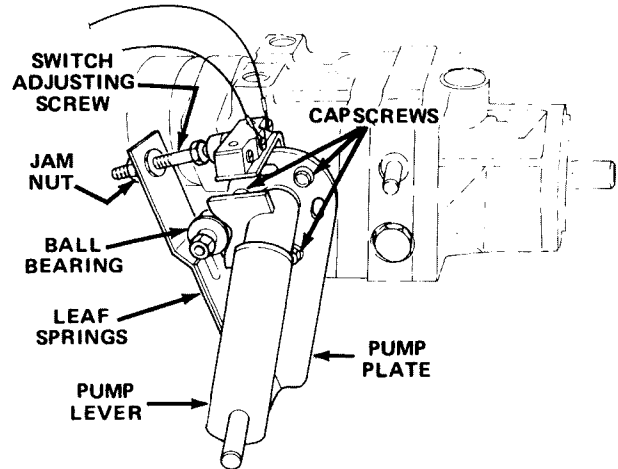

Figure 52
1. Park vehicle on a level surface and turn engine off. Apply the parking brake, tip seat forward, and actuate pump lever (Fig. 52) to insure assembly is properly seated and operating freely. Correct any discrepancy.
6. Because the wheel is rotating, the pump plate must be adjusted. But before adjusting the pump plate, move throttle to SLOW. If wheel is rotating forward, loosen capscrews, and lightly tap bottom of pump plate counterclockwise (Fig. 52). By contrast, tap pump plate clockwise if wheel is rotating backward (Fig. 52). When wheel stops rotating, tighten capscrews holding pump plate against side of transmission. Verify the adjustment with throttle in SLOW and FAST position.
- A. Ball bearing is loose or worn out (Fig. 52).
- F. Weak or damaged leaf springs (Fig. 52). Replace.
- 2. Actuate the pump lever (Fig. 52) to insure all parts are operating freely and seated properly.
- 3. Loosen jam nut. Rotate switch adjusting screw (Fig. 52) until there is a gap between head of screw and switch button.